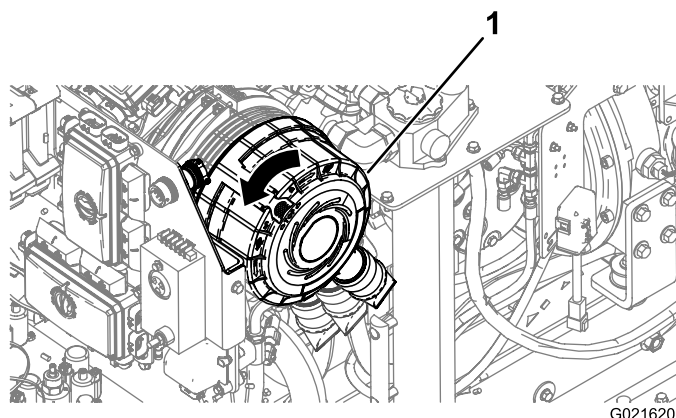

Figure 79
6. Rotate the filter cover counterclockwise so that the dust cap is at the 4 o'clock position (Figure 79).
4. Rotate the air cleaner filter cover clockwise, so that the dust cap is at the 4 o'clock position (Figure 79).
5. Push the latch on the air cleaner filter cover inward until it is fully seated (Figure 79).